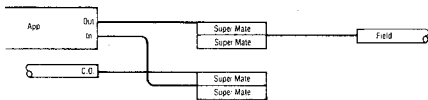

Fig. 29—Loaded modules.
2. Load modules should be placed in a position where the C.O. and Field module can be connected. See Figure 29.